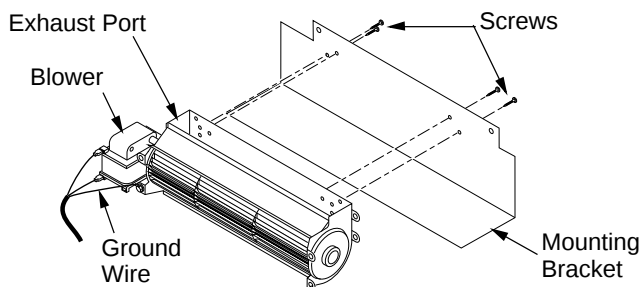

Figure 16 - Attaching Blower to Mounting Bracket
6. Attach green ground wire from power cord to blower housing using screw provided (see Figure 16). Tighten screws securely.
7. Place the blower on the mounting bracket with the exhaust port directed upward. Align the holes in blower frame with holes in bracket (see Figure 16). Using 4 screws provided mount blower and tighten each screw.